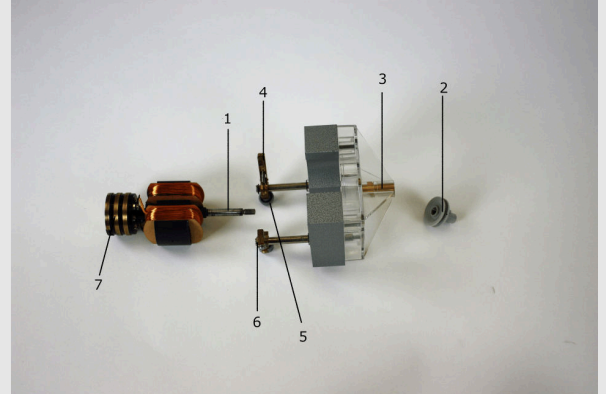
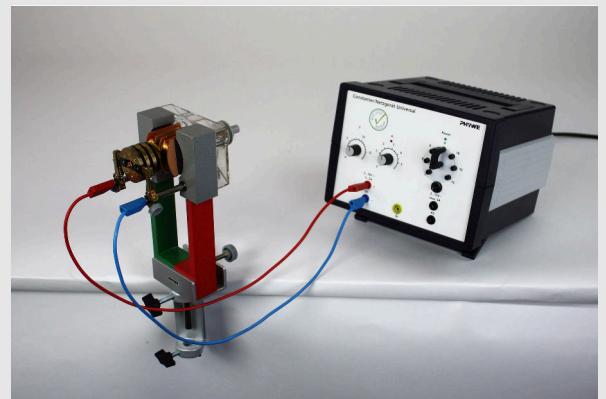

Fig. 1
Fig. 2
- Assemble the motor attachment according to Fig. 1 and Fig. 2.
- Clamp the U-shaped magnet to the tabletop with the table clamp (Fig.2).
- Connect the electric motor to the power supply as shown in Fig. 2.